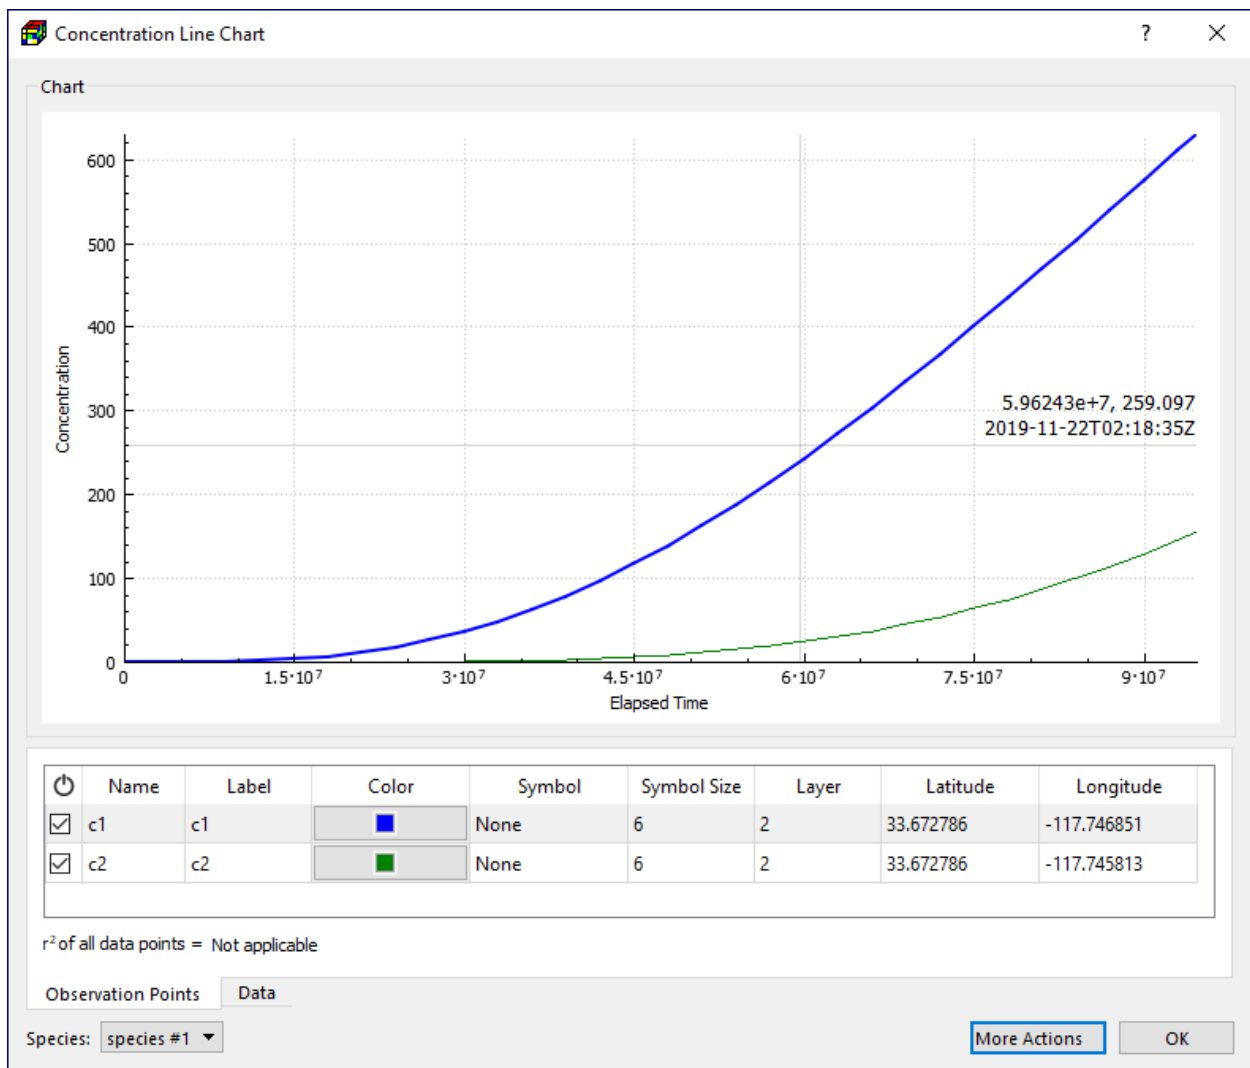

Figure 27. The Concentration Line Chart dialog box
6. Select Models > MT3D/SEAWAT > View > Line Chart to display the Concentration Line Chart dialog box (Figure 27). If your model has more than one species, you can use the Species dropdown box on the lower-left corner to select a species of interest. The calculated data are displayed in the Data Tab.